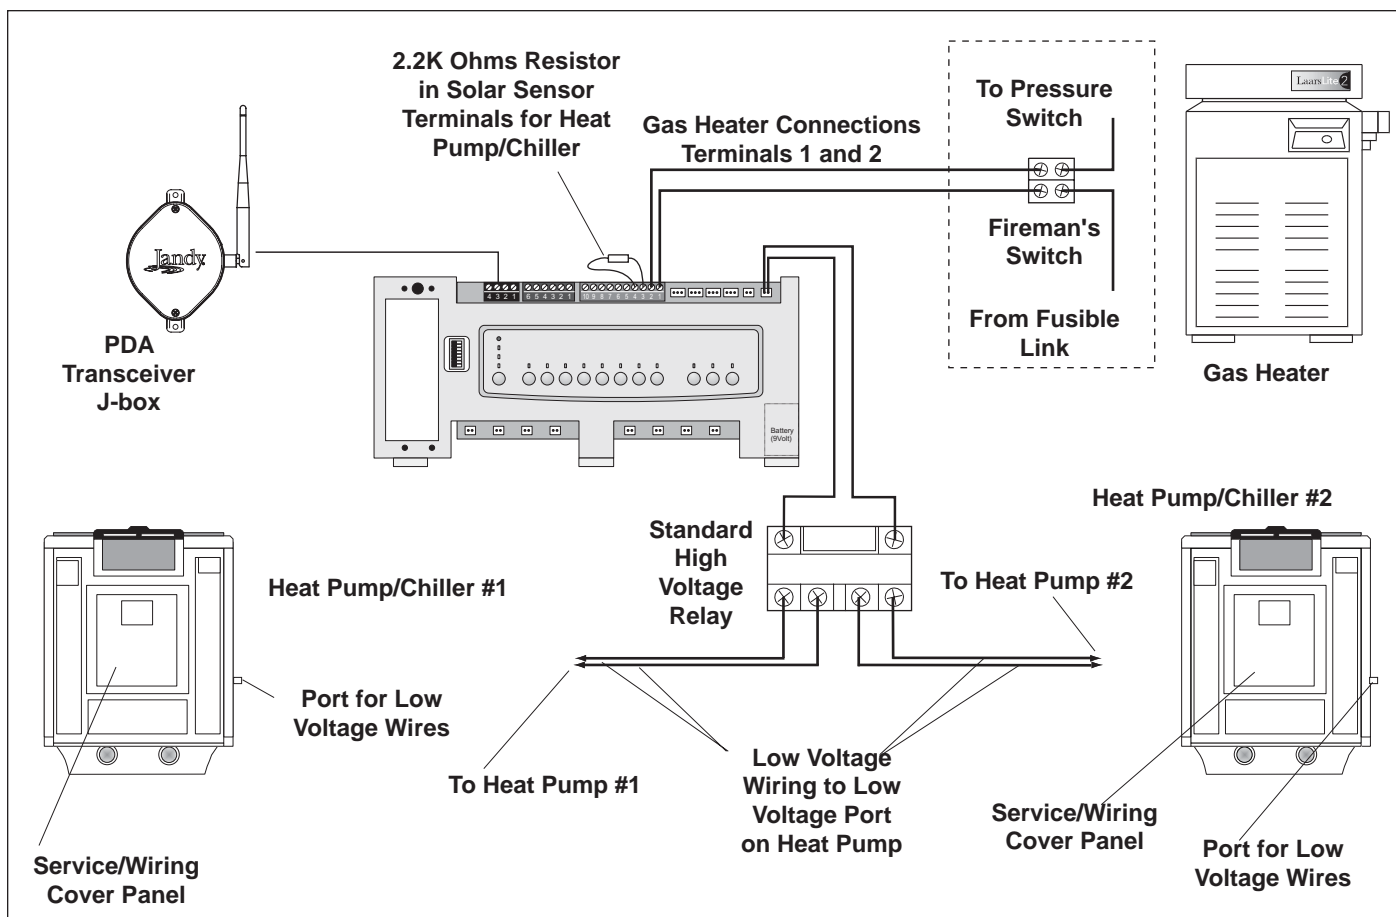

Figure 16. Heater and Heat Pump/Chiller Wiring
1. Install a fixed resistor, with a value of 2.2K Ohms, in the solar sensor terminals #3 and #4 of the green, 10-pin terminal bar of the AquaLink RS Power Center (see Figure 16).
2. To run the wires from the Heat Pump, remove the 5 screws that attach the service/wiring cover panel to the heat pump (see Figure 16).
**NOTE** One end of the wiring reserved to run into the conduit connection labeled "Low Voltage Connection", located on the lower right hand side of the heat pump (see Figure 16).